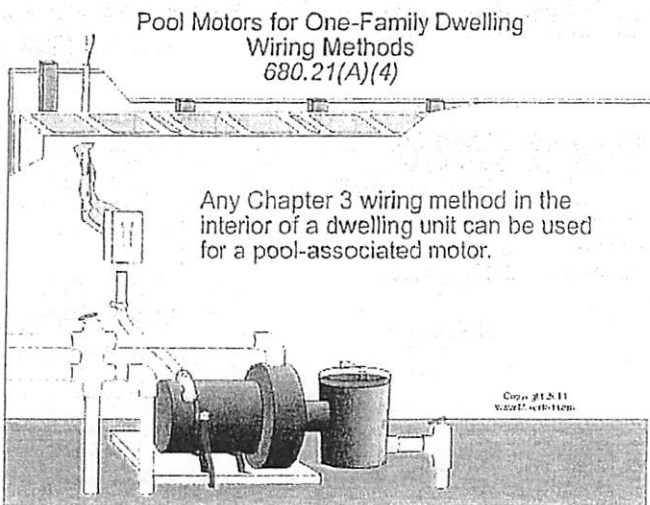

Figure 680-19
(4) **One-Family Dwelling.** Any Chapter 3 wiring method can be used on the interior of a one-family dwelling unit or accessory building associated with the dwelling unit. Raceways must contain an insulated copper equipment grounding conductor as required by 680.21(A)(1), and cable assemblies can utilize an uninsulated copper equipment grounding conductor but it must be enclosed by the outer sheath of the cable assembly. Figure 680-19